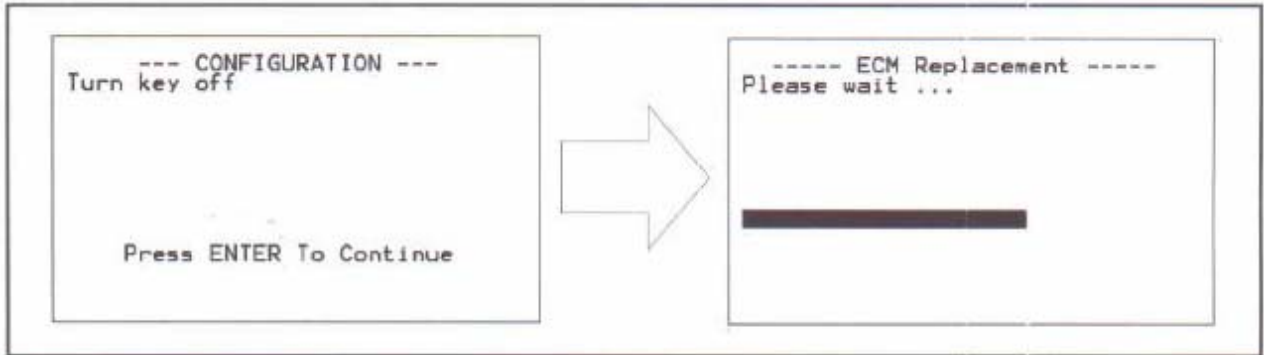

Figure 3. Key Off and Progress Bar Screens
3. Switch the ignition OFF and wait for the progress bar to indicate the completion of the configuration process (figure 3)